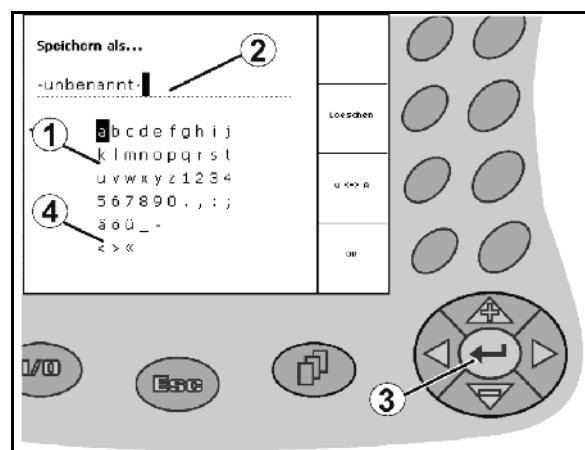

Fig. 15
If it is necessary to enter texts or numbers on the **GPS-Switch**, the input menu (Fig. 15) appears.
In the lower part of the display, a selection field appears with letters, numbers and arrows (Fig. 15/1) which can be used to compose the input line (Fig. 15/2).
-  Confirm the selection (Fig. 15/3).
The arrows and in the selection field (Fig. 15/4) make it possible to move around the line of text.
The arrow  in the selection field (Fig. 15/4) deletes the last entry.